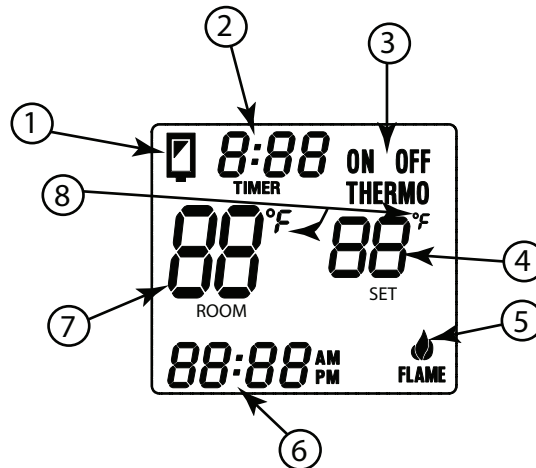

Fig. 2 LCD Display Functions
The transmitter operates on (2) AAA size 1.5V batteries. It is recommended that **ALKALINE** batteries always be used for longer battery life and maximum operational performance. **IMPORTANT:** New or fully charged batteries are essential for proper operation of the multi-function transmitter. Insert (2) AAA size 1.5V batteries into the battery compartment on the back of the transmitter, positioning the (+) and (-) ends of the batteries as indicated on the casing. When the batteries are inserted, Fig. 2 (with similar numbers) will display.
Note: If a LOW battery icon appears on the screen, check the position of the batteries. See Fig. 2.